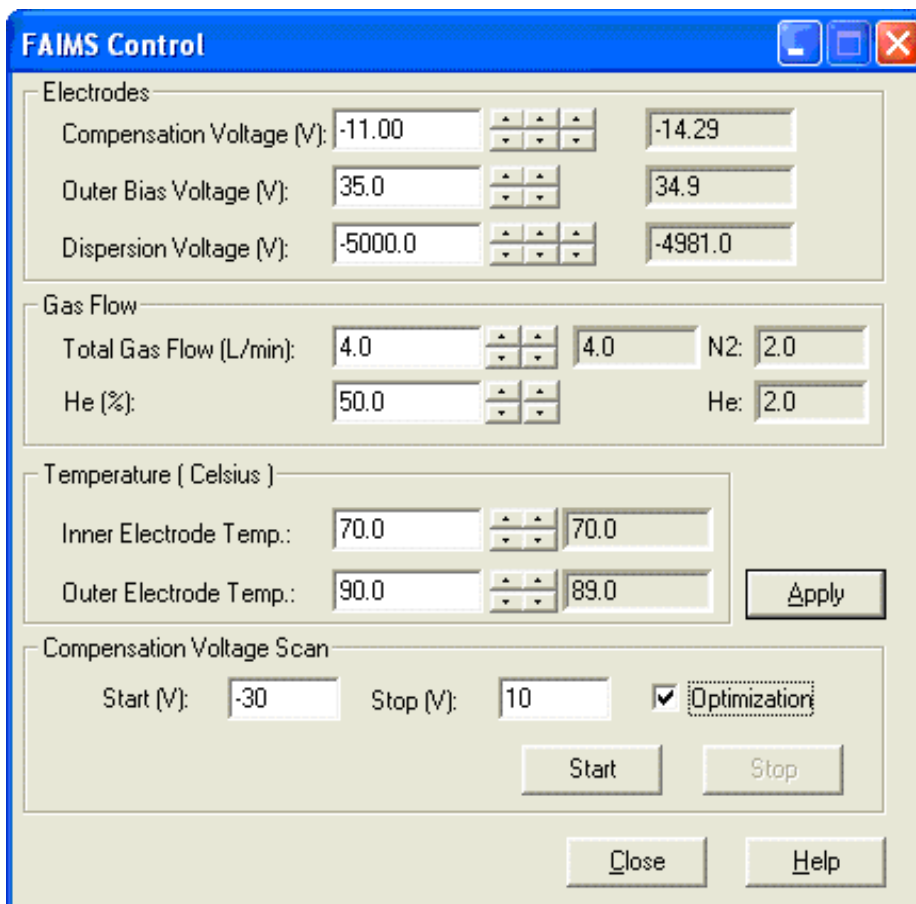

Figure 18. FAIMS Control view
2. Click the FAIMS button on the toolbar to display the FAIMS Control view. See Figure 18.
4. Obtain a CV spectrum (that is, ion intensity versus CV) by performing a CV ramp. To perform a CV ramp, type the starting and ending CV voltages in the Start (V) and Stop (V) boxes and click Start. To find the optimum CV value, select **Optimization** first.